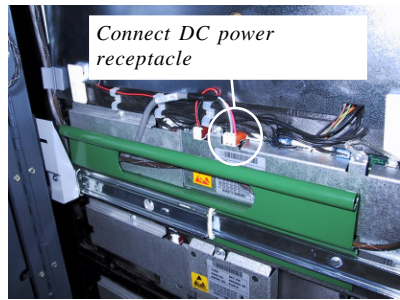

Figure 7. Connect the DC power plug to the receptacle shown above.
6. Refer to Figure 7. Connect the DC power cable to the Central Machine Controller (CMC) module on the dispensing mechanism.